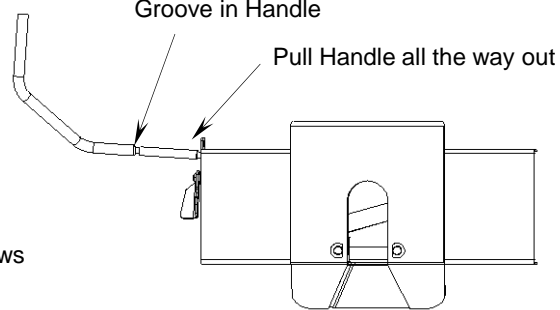

Fig. 19
4. See that all hitch pull pins (# 11 on Fig. 19) are in place and the spring retaining pins (#12 on Fig. 19) are installed.
7. Pull hitch handle out completely until it latches in open position so that king pin is no longer securely grasped by hitch jaws (See Fig. 19 on next page). Trailer is now free from hitch and truck. If handle does not pull out, there is probably pressure against the jaws. To relieve this pressure, back the truck slightly. Reset truck emergency brake. Then pull hitch handle out completely until it latches in open position. (See Fig. 19)